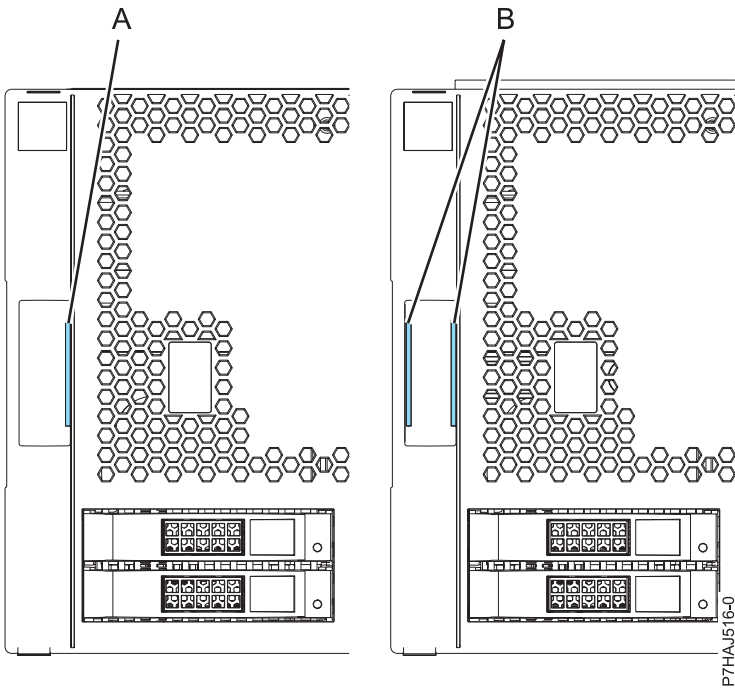

Figure 9. Identifying the older and newer covers
**Note:** The older covers that were shipped before 1 March 2011 can be identified by a single blue stripe (A) on the cover assembly latches. Newer covers that were shipped after 1 March 2011 have two blue stripes (B) on the cover assembly latches. See Figure 9 on page 30.